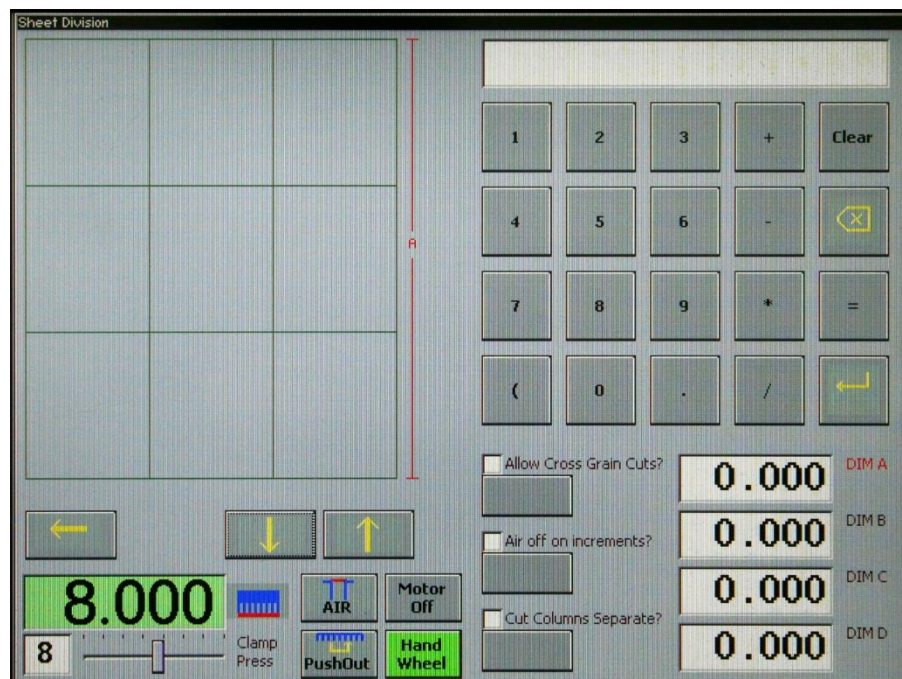

Figure 10 – Sheet Division Screen
1. From the Job/Edit Screen, press the Sheet Division button. The Sheet Division screen like the one shown in Figure 10 will be shown.